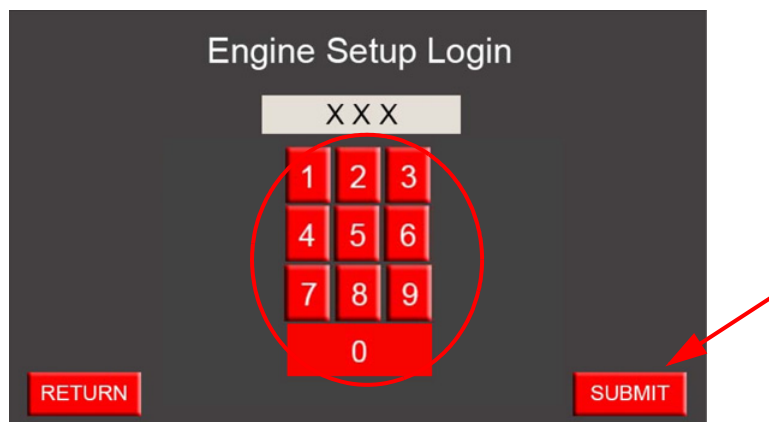

Figure 4-7 Typical Engine Setup Login screen
3. As shown in Figure 4-7, press the soft number keys to enter password "806" in the Engine Setup Login screen.